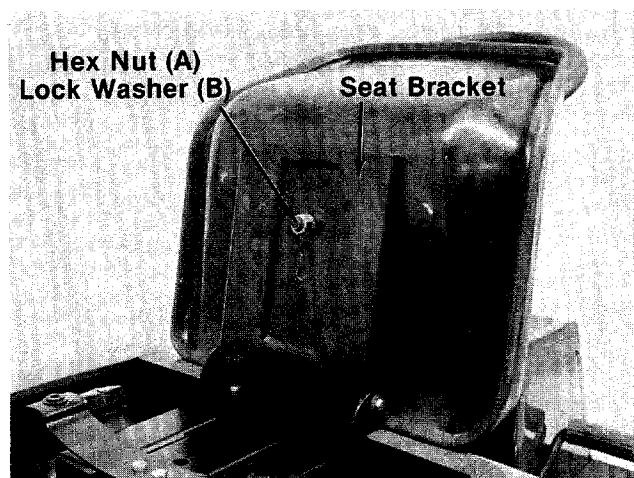

FIGURE 10.
The seat may be adjusted to three different positions. Select the desired seat position and secure the seat to the seat bracket with hex nut (A) and lock washer (B). See figure 10.